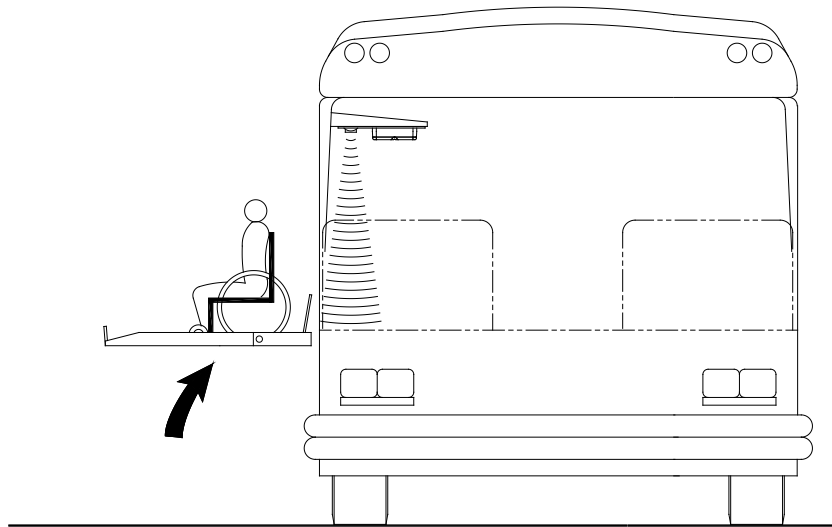

FIGURE 7: CHECKING NORMAL PLATFORM POSITION
2. Refer to **FIGURE 7**. Open vehicle door above lift. Lower platform to ground and place wheelchair and passenger at rear of platform. Bridgeplate (rear barrier) should be up. Raise platform to floor level. This normal platform motion with wheelchair and passenger aboard should not actuate TWS. If LED does flash (buzzer will also sound and large red light will flash), turn sensor adjustment screw slightly CCW.